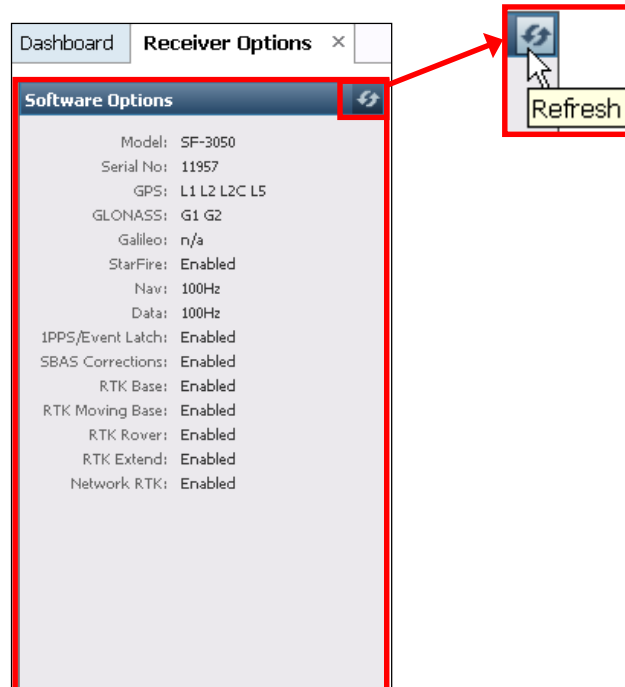

Figure 87: Software Options Window
8. Click  (refresh) on the Software Options window (see Figure 87) to display the uploaded software options.
6. To view all currently loaded software options, click  (refresh) on the *Software Options* window (see Figure 87).
- *RTK Extend Software Option*: A valid *RTK Extend Software Option* must be installed in the rover (see Figure 87)